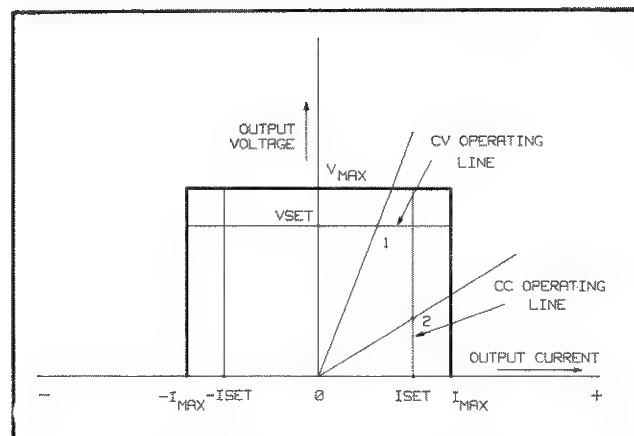

Figure 4-1. Output Characteristic
The operating locus (Figure 4-1) shows a single range, two quadrant capability. This means that the supply is capable of sourcing as well as sinking current over the output voltage range from 0 volts to the rated maximum. The operating point is determined by the voltage setting, the current setting and the load resistance. In quadrant 1, Figure 4-1, two operating points are shown. Point (1) is the operating point defined by the load line cutting the operating locus in the constant voltage region. In this region, the supply is operating in CV mode. At operating point (2), defined by the load line cutting the operating locus at the vertical CC line, the supply is operating in CC mode.